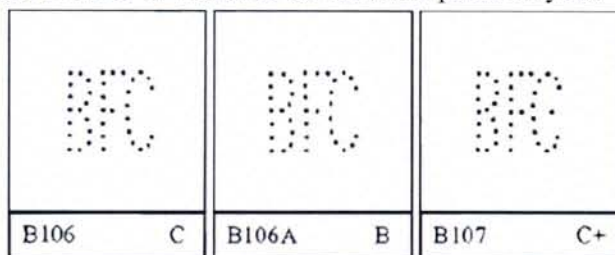

Figure 2
- I was now looking at an image of the three patterns (See Figure 2, below). Finally, in order to get something that you can overlay onto another image, you have to "erase" the white background leaving only the black foreground perforation dots. You do this with the "Background Eraser" tool.